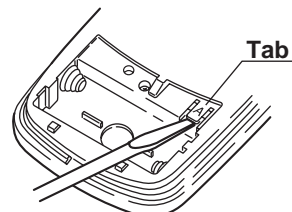

Fig. 8
- (1) Break the address-setting tab marked "A" on the second remote controller to change the address. (Fig. 8)